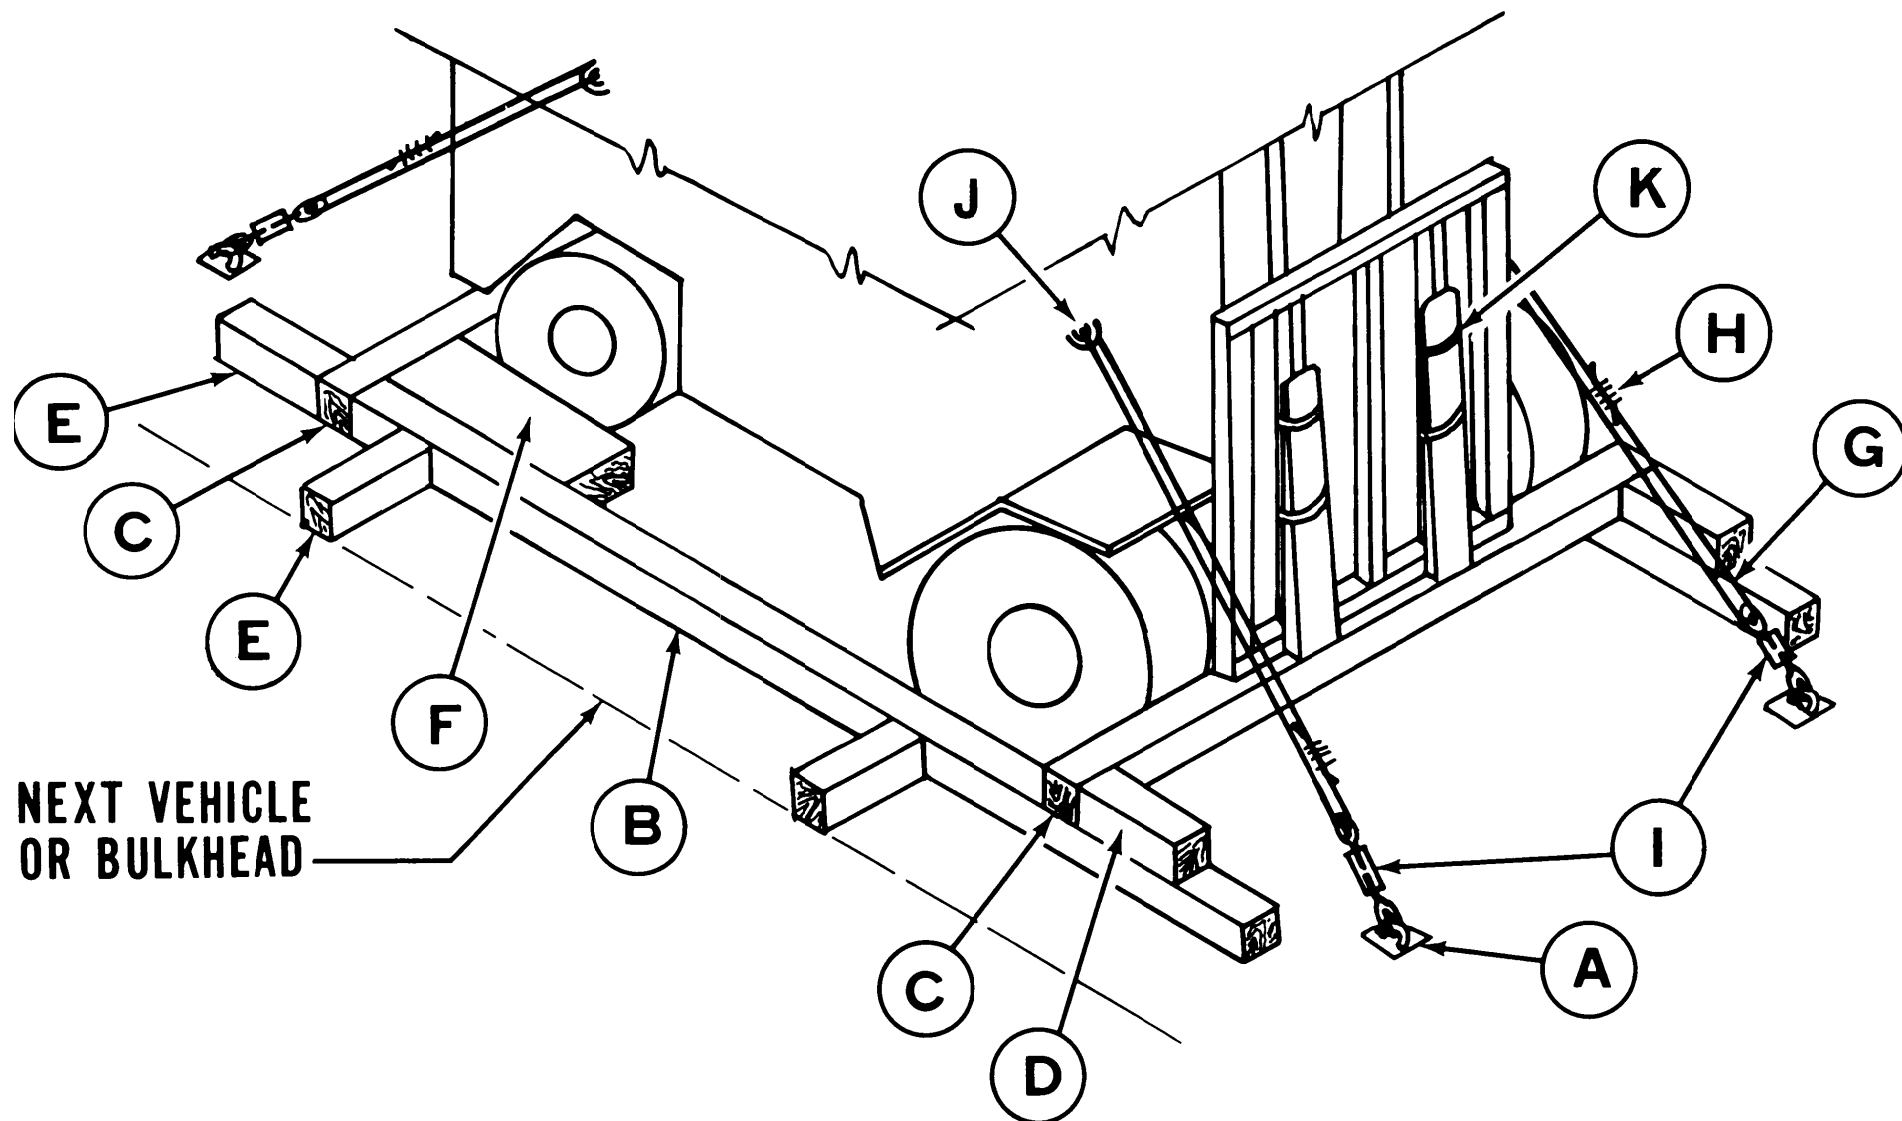

Figure 6-3. Typical blocking and tiedown of 6k-pound capacity CBD forklift in general-cargo vessel.
d. *Materials.* Figure 6-3 shows typical blocking and tiedown of a 6k-pound CBD forklift in the hold of a general-cargo vessel. Table 6-1 is the approximate bill of materials for blocking and tiedown of a 6k CBD forklift in the hold of a general cargo vessel. Table 6-2 provides data on the application of materials required to restrain the forklift.
Table 6-2. Application of Materials for Blocking and Tiedown of the 6k CBD Forklift in General-Cargo Vessel (Fig 6-3)
Use similar procedures detailed in figure 6-3 and tables 6-1 and 6-2 for the 4k-pound CBD forklift.
SEABEE barges and LASH lighters with hatch covers in place can transport the forklifts. When the barges and lighters transport the forklifts, secure the vehicles with blocking and tiedowns as shown in figure 6-3. Likewise, apply materials as indicated in tables 6-1 and 6-2.
As a minimum, remove and secure all loose items to prevent loss or damage in transit. When economical benefits would be realized, prepare forklift tines as described in paragraph 2-5 and shown in figure 6-3.